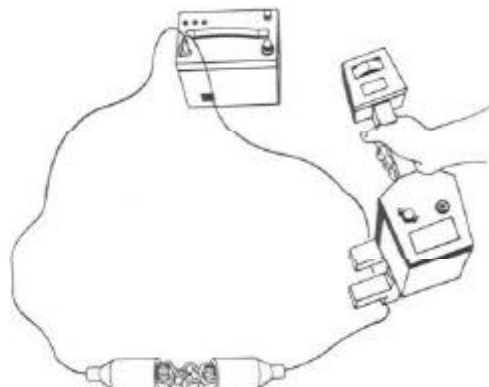

Figure 3-3: Configuration for Testing the Conductive Attachment
- 12 Connect the BLACK and RED ends of the Conductive Attachment together. Lay the connected wires out on the floor in a circular configuration (see Figure 3-3). Plug the Conductive Attachment into the DIRECT/5120 CLAMP jack of the Transmitter.